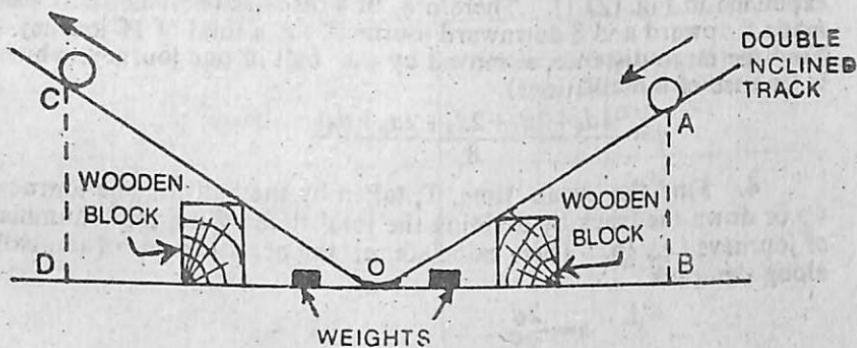

Fig. 22.1.
1. Put the inclined track on a table and keep the weights of 1 kg on the wings on either side of the middle of the track. Insert the wooden blocks under the ends of each track to incline the tracks (Fig. 22.1).
7. To determine the inclination  $\sin \theta$ , mark two points A and C on the two arms (Fig. 22.1). Measure vertical heights AB and CD. Also measure distances of A and C from the centre, where height is zero. Find the two inclinations  $\frac{AB}{AO}$  and  $\frac{CD}{CO}$  with respect to the table and find their mean. If the table is not horizontal, this mean value gives the correct inclination of each arm of the apparatus with respect to the horizontal plane.